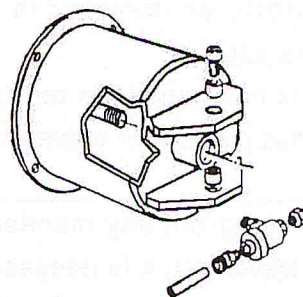

Fig.19
For cleaning or replacing the silencer of bead breaker (B), see fig.19 and proceed as shown on previous point 1 and 3.